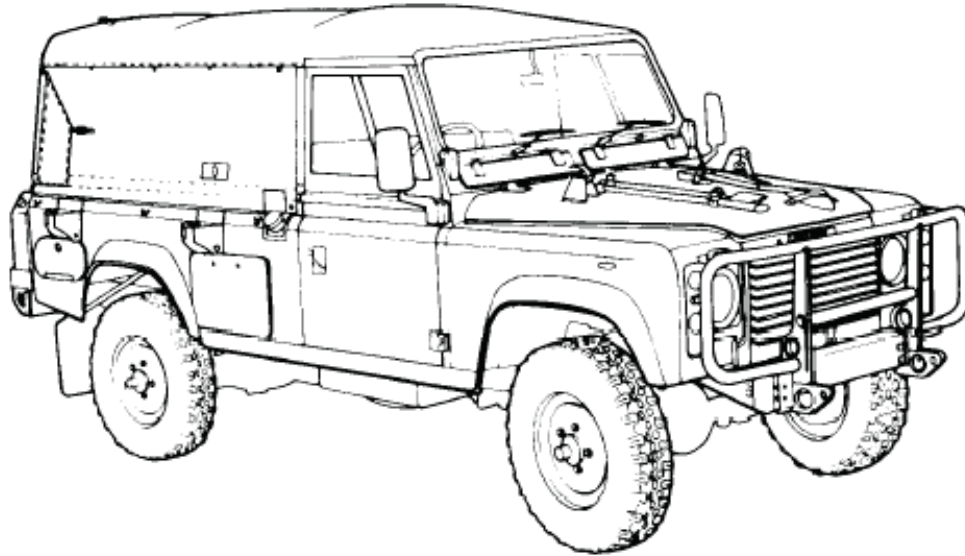

Figure 1 Truck, Utility, Lightweight, FFR and Truck, Utility, Lightweight, FFR, Winch, MC2 – Land Rover 110 4x4
1. This EMEI lists basic data for the Truck, Utility, Lightweight, FFR and Truck, Utility, Lightweight, FFR, Winch, MC2 – Land Rover 110 4x4, as shown in Figure 1. Information applicable to the Land Rover cab/chassis is contained in EMEI Vehicle G 100 Truck, Utility, Lightweight and Truck, Utility, Lightweight, Winch, MC2 – Land Rover 110 4x4 – Data Summary.